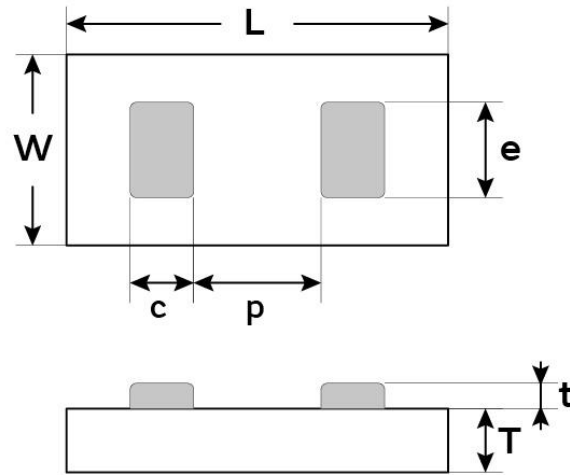

Figure 7 - Package outline drawing
(1) Other Film Frame Carrier are possible on request
(2) SAC = ENIG + SAC305 type 6 or ENIG = 0.1µm Au / 5µm Ni
(3) missing capacitors can reach 0.5%
(4) refer to Figure 7